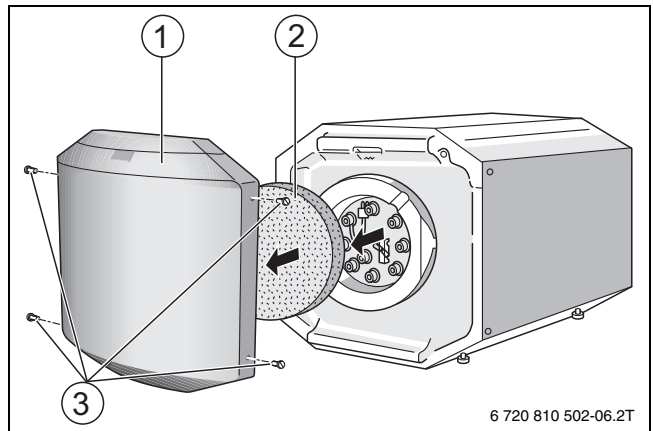

Fig. 12 Removing the front panel and thermal insulation
- ▶ Remove front cover of tank (→ Fig. 12 [1]).
- ▶ Remove front cover of tank (→ Fig. 12 [1], page 12).